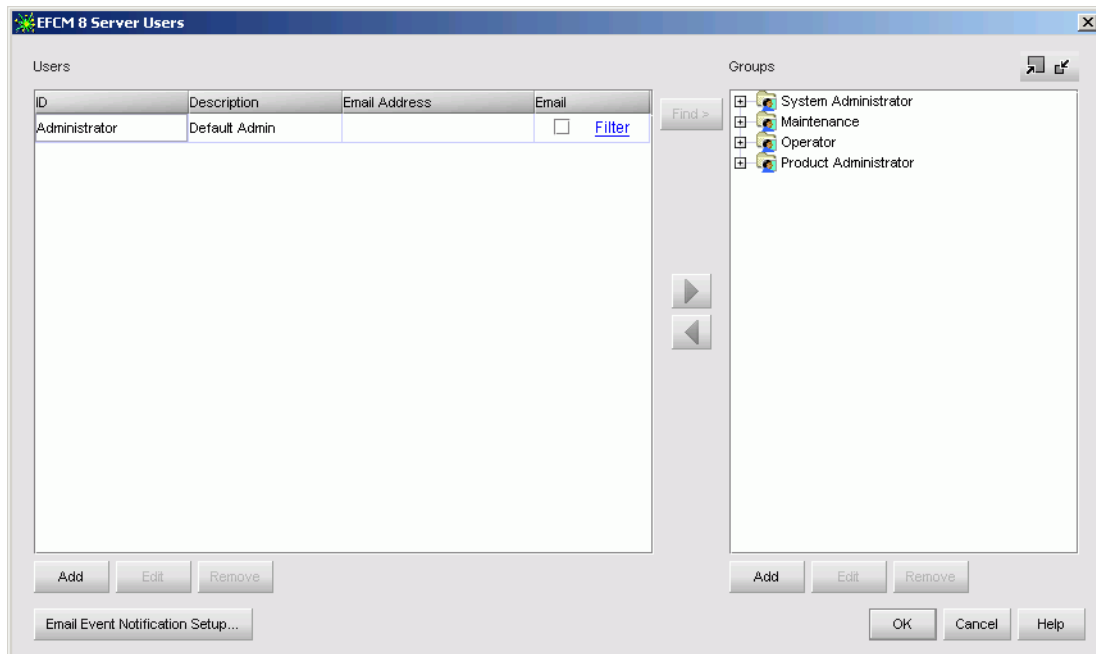

Figure 2-69 SANavigator or EFCM 8 Server Users Dialog Box
4. Select *Users* from the SAN menu. The *SANavigator Server Users* or *EFCM 8 Server Users* dialog box displays (Figure 2-69 on page 2-74).